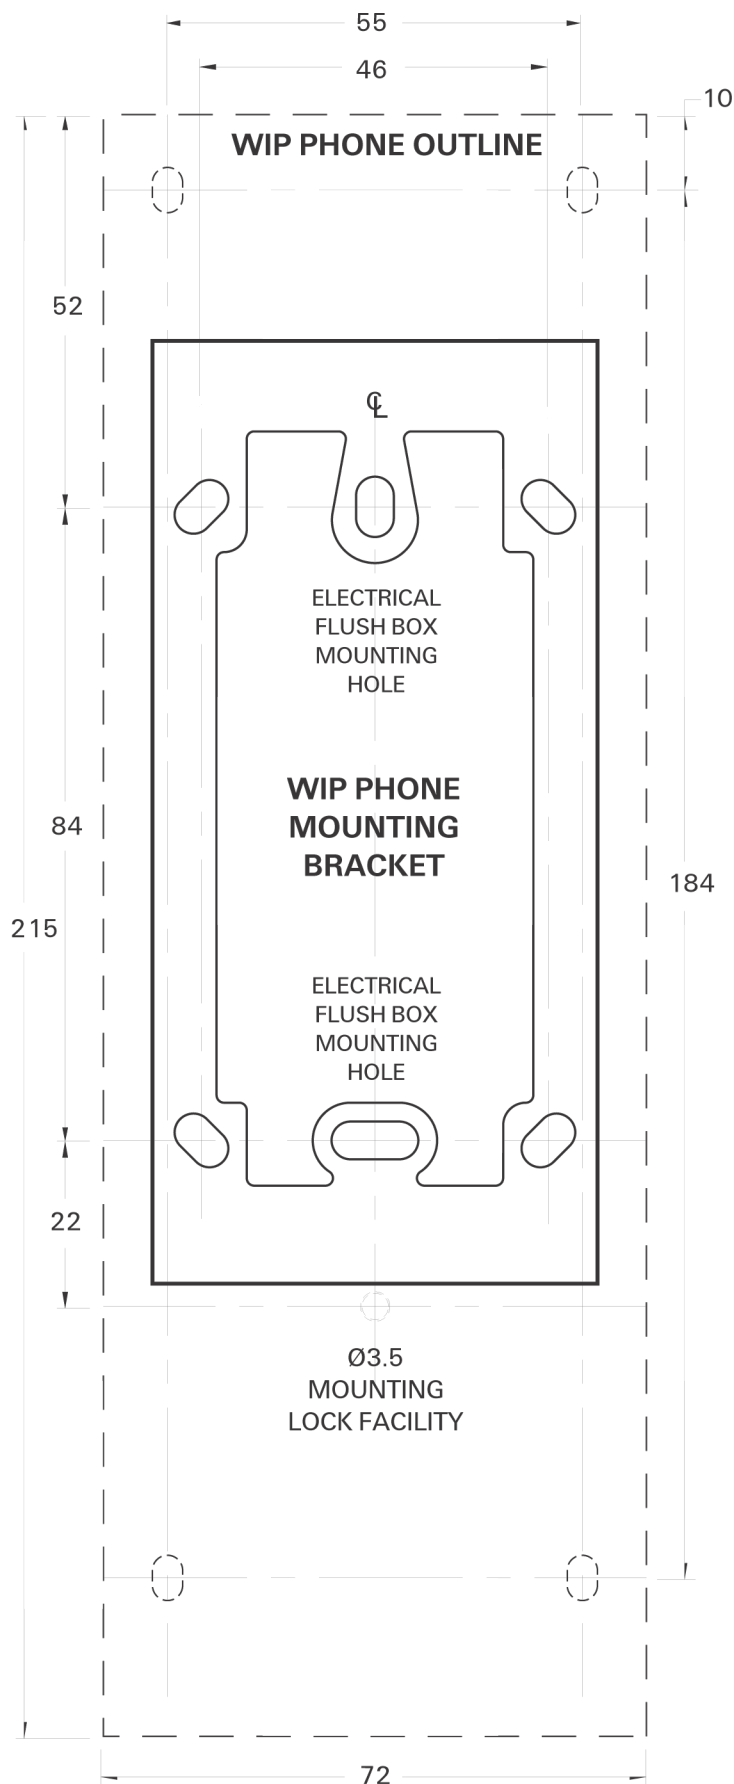

Figure 1 Mounting Bracket Detail
1. Using the supplied bracket - screw the bracket to the wall or to a standard electrical flush box. Slide the phone onto the bracket. See Figure 1 for hole locations. Note that an additional screw through the phone's base into the wall will prevent the phone from being easily removed from the bracket.